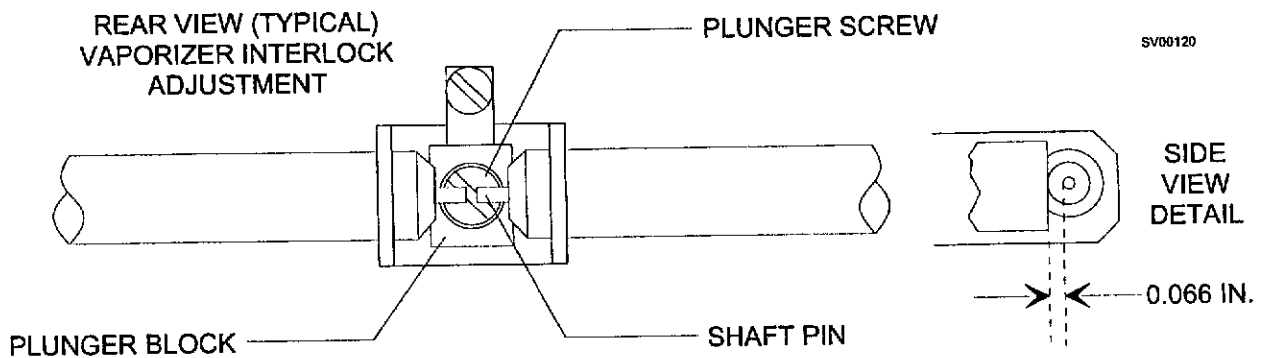

Figure 5-6: VAPORIZER INTERLOCK MECHANISM
- 5.5.5.1 With a test fixture connected as shown in Figure 5-6, apply a pressure of 50 cm H₂O to the pressure sample line.
- 5.6.4 Turn the center plunger adjustment screw until the distance between the plunger block and the small pins on the horizontal shafts is approximately 0.066 in. See Figure 5-6.